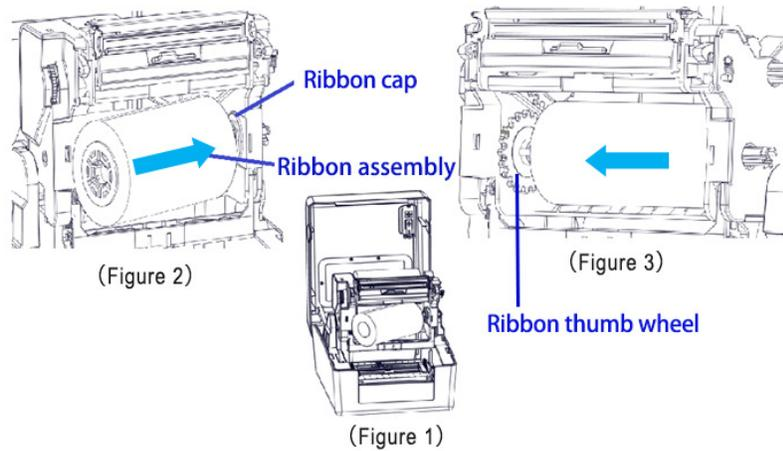

Figure 2.3.3
Turn and open the ribbon holder to the position shown in Figure 1, insert the installed ribbon assembly into the ribbon cap in the direction shown in Figure 2, and insert the other end of the ribbon into the ribbon thumb wheel as shown in Figure 3, finally, pull the ribbon outward gently, and it means that the ribbon installation is complete when the operator feels the elastic recovery force (see Figure 2.3.3).
- 3) Install the ribbon rewinding shaft on the ribbon holder as shown in Figure 2.3.3;